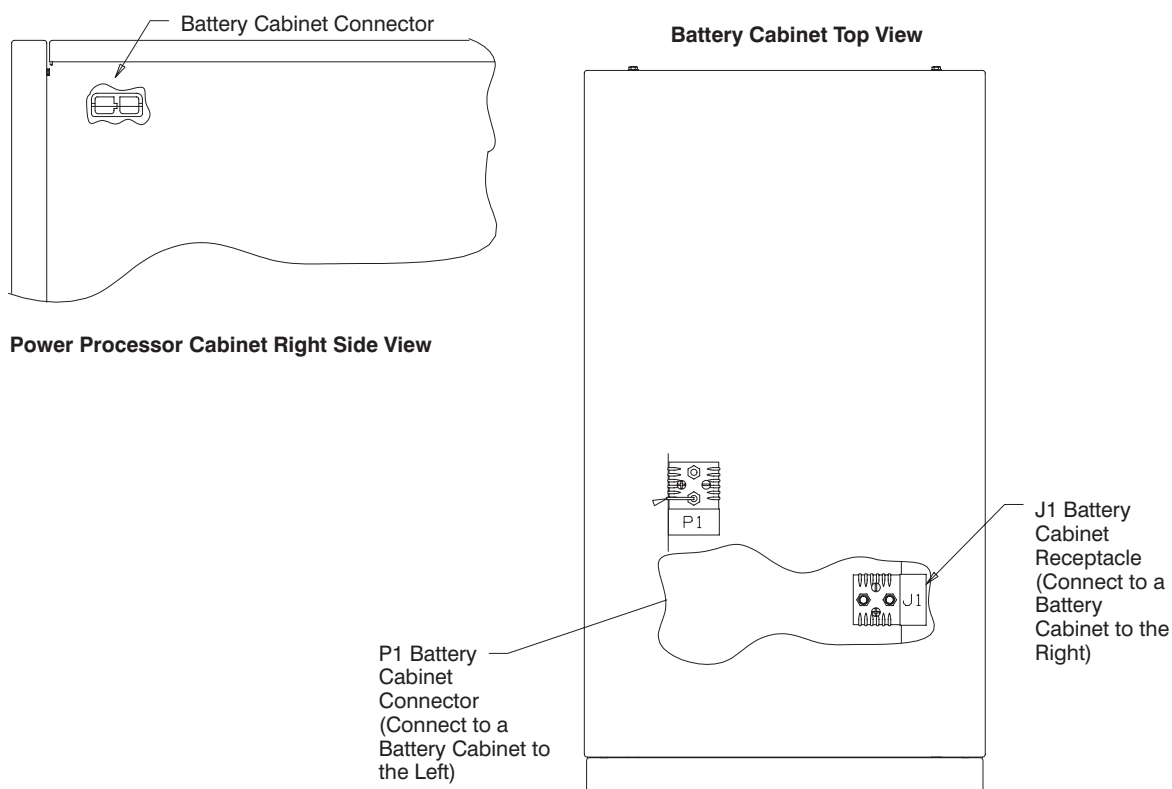

Figure 25. Battery Cabinet Connectors
2. Take the battery cabinet connector (P1) from each battery cabinet and mate it to the matching J1 connector in the next cabinet to the left. (see Figure 25).